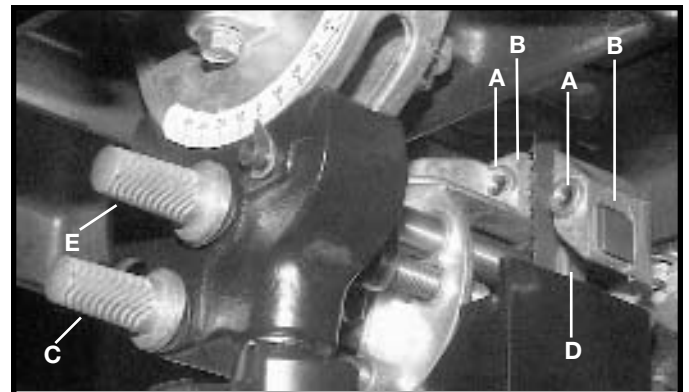

Fig. 29
2. Adjust the front edge of the guide blocks (B) so that they are just behind the "gullets" of the saw teeth. Turn the knurled knob (C) Fig. 29 to make this adjustment. Check the support bearing. It should not be touching the back of the blade.
3. Loosen the two screws (A) Fig. 29. Move the guides (B) as close as possible to the side of the blade, being careful not to pinch the blade. Tighten screws (A).
3. Turn the other knurled knob (E) to adjust the lower blade support bearing (D) Fig. 29 so that it is about 1/64" behind the back of the blade.